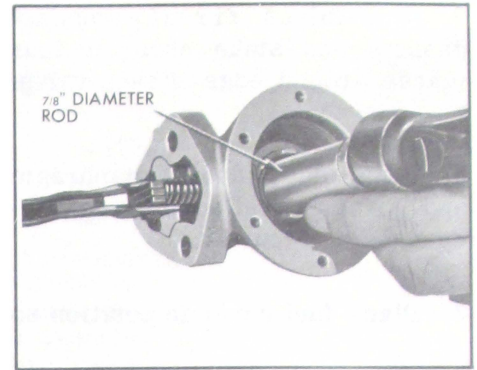

Figure 3-20—Installing Oil Seal rod over end of link. See Figure 3-21.
2. Install new oil seal in retainer and drive retainer into body with flat end of a rod 7/8" in diameter. See Figure 3-20. Stake body in four places around retainer.